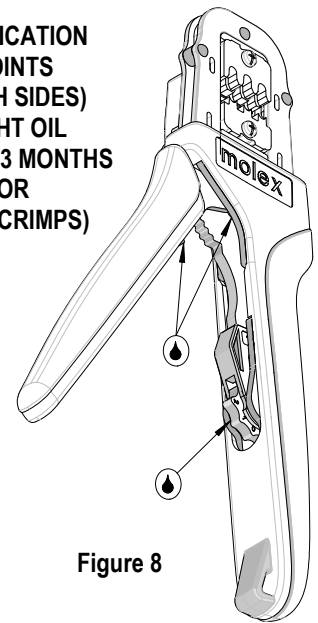

Figure 8
3. Make certain all pins; pivot points and bearing surfaces are protected with a thin coat of high quality machine oil. Do not oil excessively. The tool was engineered for durability but like any other equipment it needs cleaning and lubrication for a maximum service life of trouble free crimping. Light oil (such as 30 weight automotive oil) used at the oil points, every 5,000 crimps or 3 months, will significantly enhance the tool life. See Figure 8.